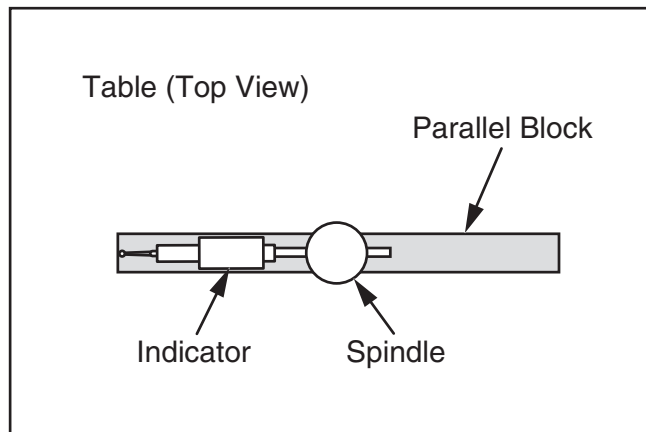

Figure 57. Parallel block and indicator positioned for the X-axis measurement (top view).
5. To measure spindle alignment along X-axis, place parallel block directly under spindle and indicator across length of table, as illustrated in **Figure 57**.